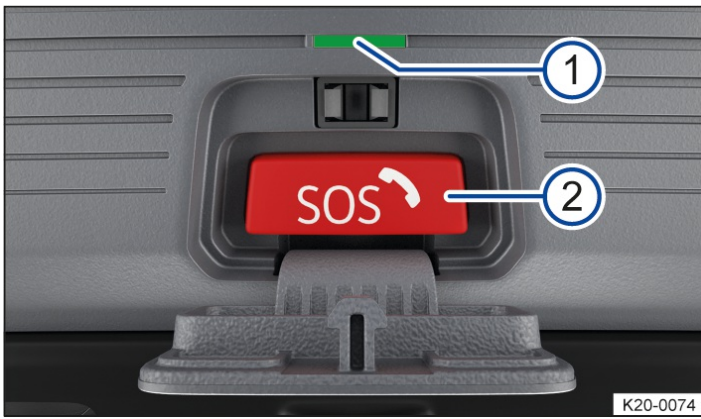

Fig. 2 Control for emergency call: indicator lamp and button.
There is an indicator lamp → Fig. 2 ① in the control. Depending on the operational status of the emergency call system in the vehicle, the indicator lamp lights up in different colours and light sequences: